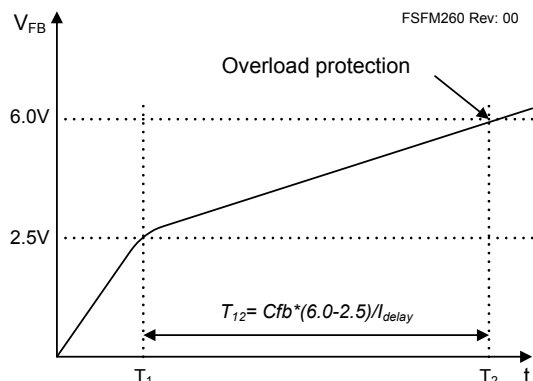

Figure 20. Overload Protection
3.1 Overload Protection (OLP): Overload is defined as the load current exceeding a pre-set level due to an unexpected event. In this situation, the protection circuit should be activated to protect the SMPS. However, even when the SMPS is in the normal operation, the overload protection circuit can be activated during the load transition. To avoid this undesired operation, the overload protection circuit is designed to be activated after a specified time to determine whether it is a transient situation or an overload situation. Because of the pulse-by-pulse current limit capability, the maximum peak current through the SenseFET is limited and, therefore the maximum input power is restricted with a given input voltage. If the output consumes beyond this maximum power, the output voltage (V_O) decreases below the set voltage. This reduces the current through the opto-coupler LED, which also reduces the opto-coupler transistor current, increasing the feedback voltage (V_{FB}). If V_{FB} exceeds 2.5V, D1 is blocked and the 5μA current source starts to charge C_B slowly up to V_{CC} . In this condition, V_{FB} continues increasing until it reaches 6V, when the switching operation is terminated, as shown in Figure 20. The delay time for shutdown is the time required to charge C_B from 2.5V to 6.0V with 5μA. In general, a 10 ~ 50ms delay time is typical for most applications.